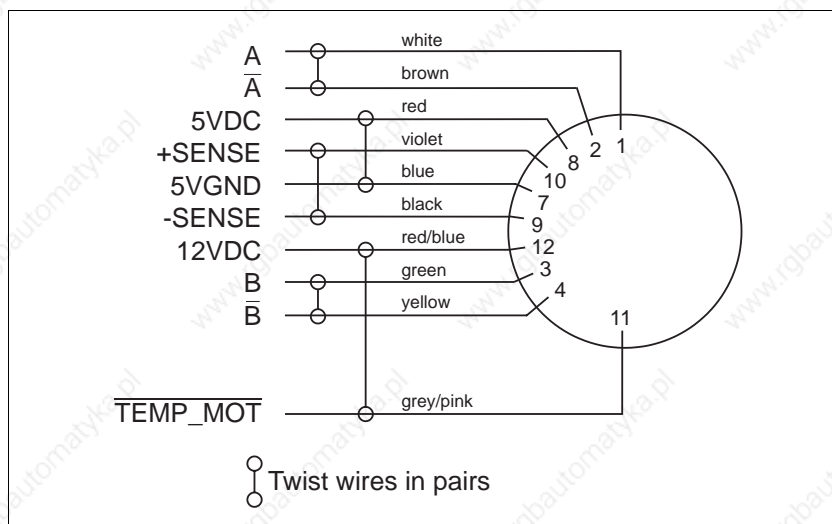

Fig. 2-21 Encoder connector – motor end
8. Fasten the connector to the front panel (item 55) with screws.
9. Twist the encoder cable wires in pairs as illustrated in fig. 2-21.